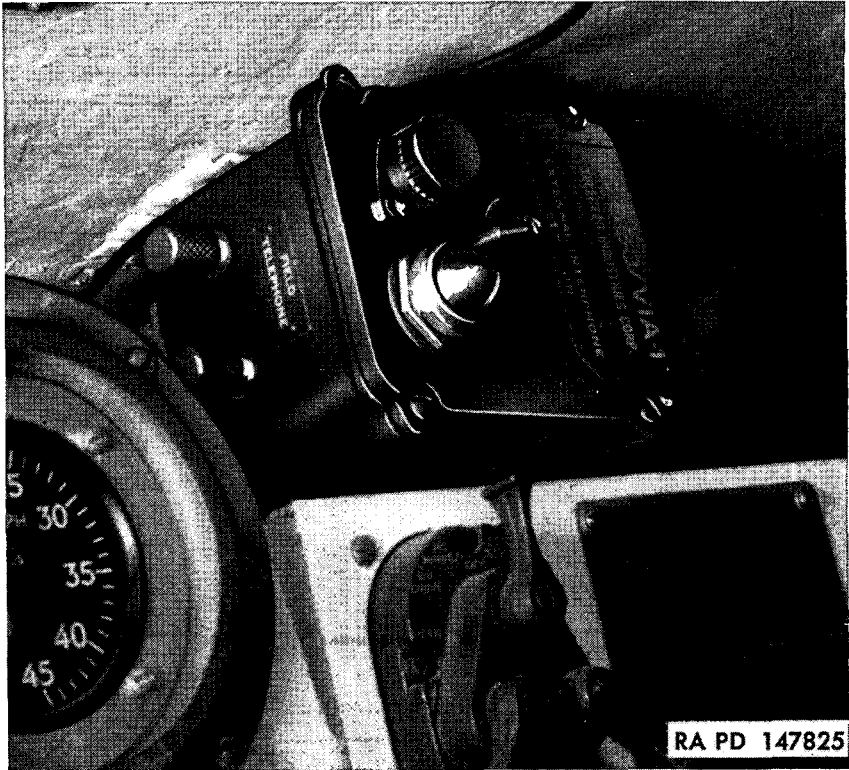

Figure 380. Interphone control C-663/VIA-1.
c. INTERPHONE CONTROL C-663/VIA-1. This unit is a disconnect switch box located near the driver (fig. 380), and is used to disconnect the circuits leading to the rear hand-set and control box in case of damage to the rear components by shell fire. This box also contains telephone binding posts.
- (2) To remove interphone control C-663/VIA-1 (fig. 380), disconnect the two plugs on back of unit. Remove screws holding box to mounting bracket and remove box.